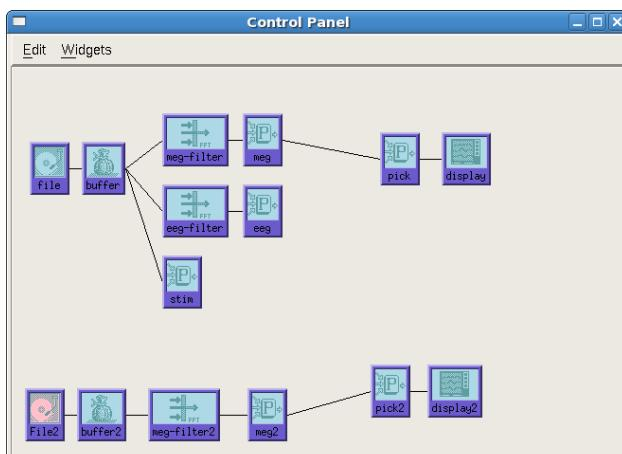

Figure 51 : The control panel for compare.setup.
- The *Graph* display shows two synchronized windows (Figure 50). The control panel has separate controls for both windows (Figure 51).